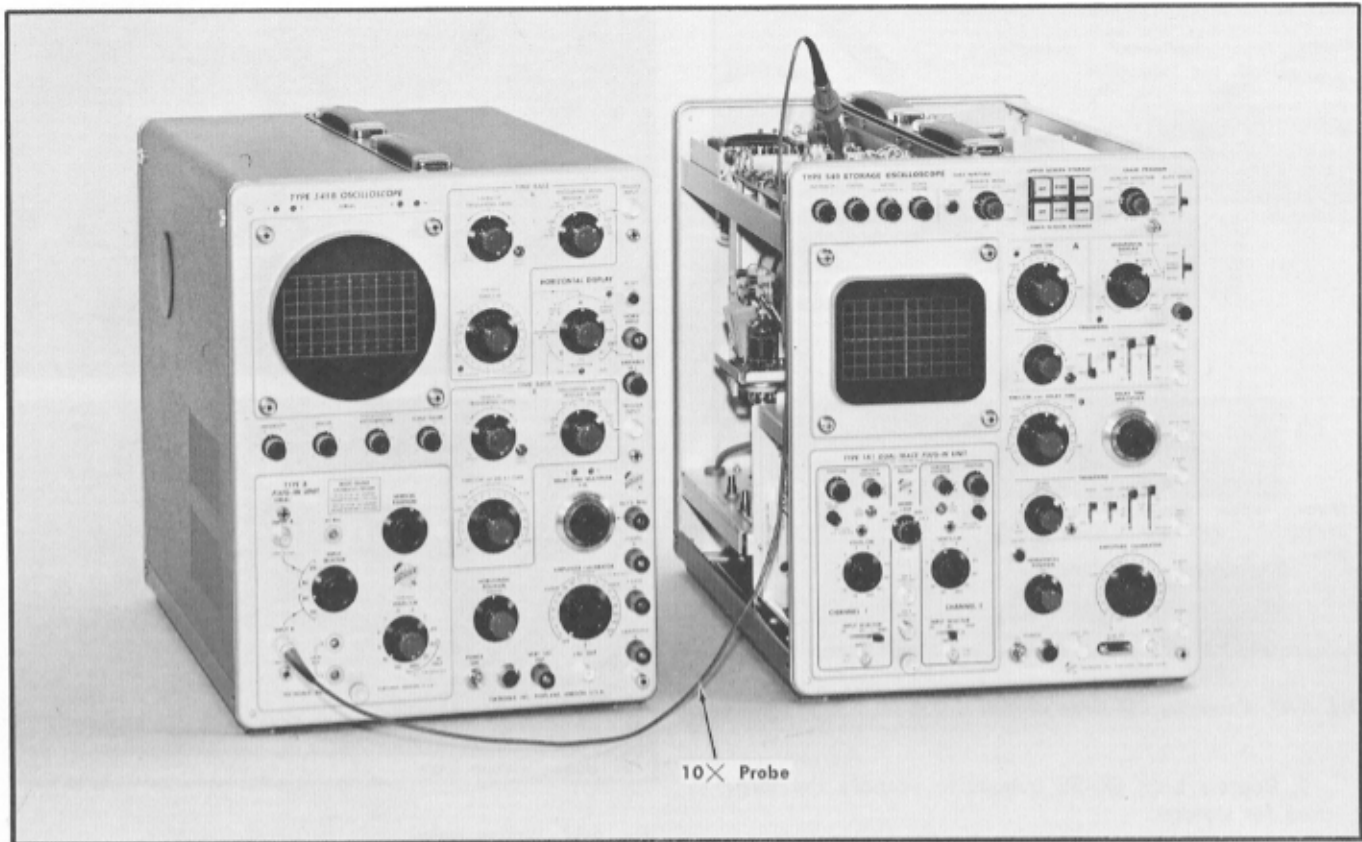

Fig. 6-49. Equipment setup for steps 55 through 58.
- a. Equipment setup is shown in Fig. 6-49.